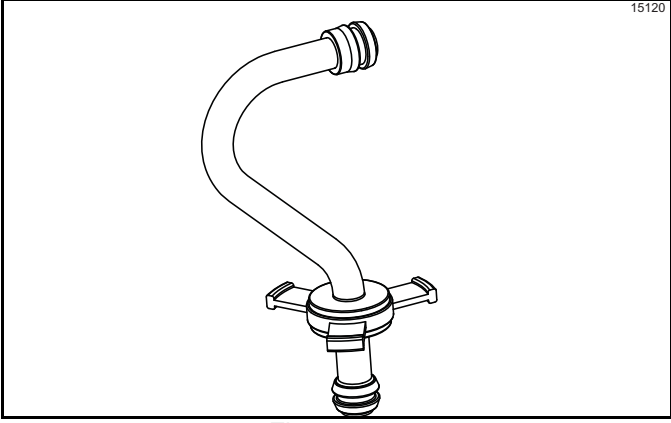

Figure 6-31
10. Assemble the feed tube assembly. Slide the check ring into the groove of the feed tube. (See Figure 6-31.)